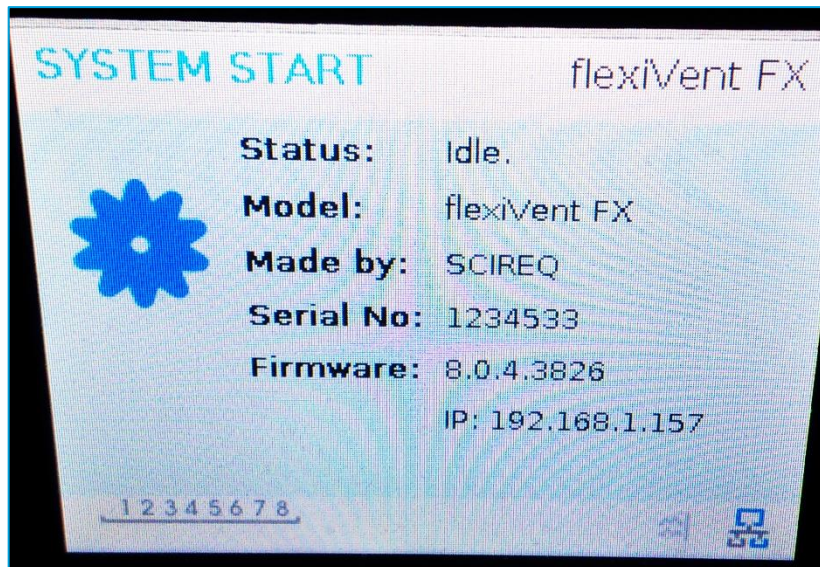

Figure 2-10: LED display on the front of the flexiVent when available for connection
- If the flexiVent is correctly powered, the visual display should display the unit's serial number, current software versioning and show that the unit is in Idle (Figure 2-10)